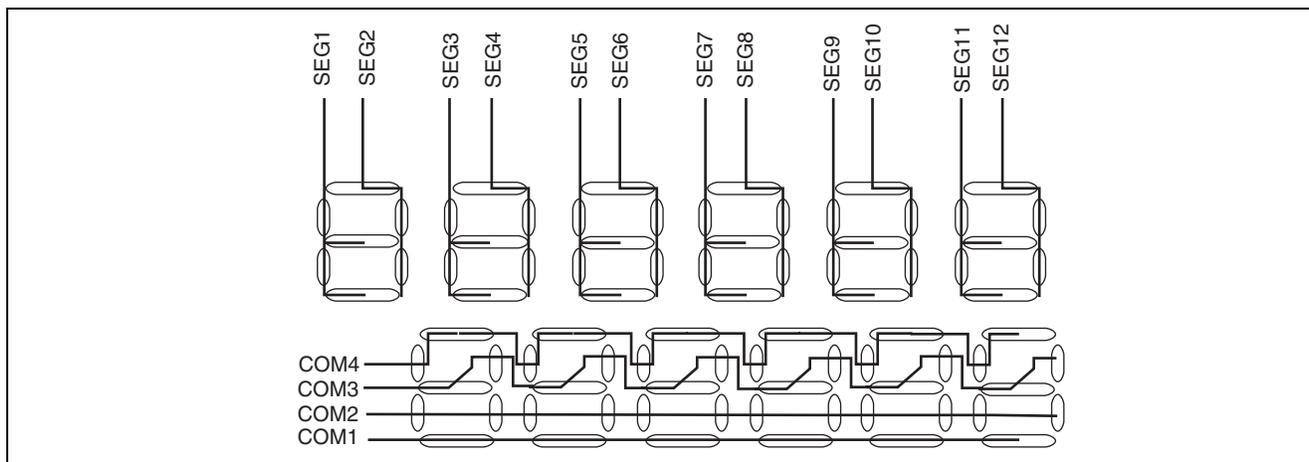

Figure 2.2 Connections of Segment Signals and Common Signals for the 6-Digit 7-Segment LCD Used in this Sample task
4. In this sample task, a 6-digit 7-segment LCD is driven by 1/4-duty-cycle driving. Figure 2.2 is a diagram showing connections for segment signals and common signals for the 6-digit 7-segment LCD used in this sample task.